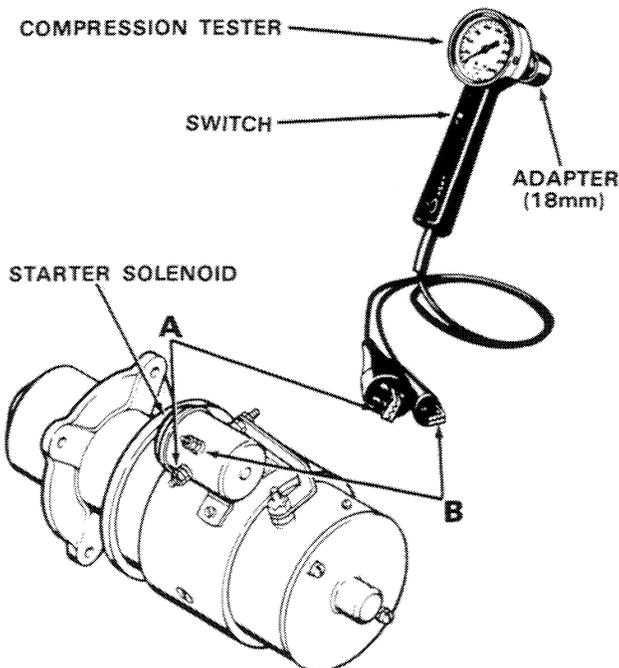

Figure 1
A. When using the remote control type of compression tester, Figure 1, make sure the wires are correctly attached to the starter terminals. Incorrect attaching of wires will cause damage to the testing equipment, Figure 1.